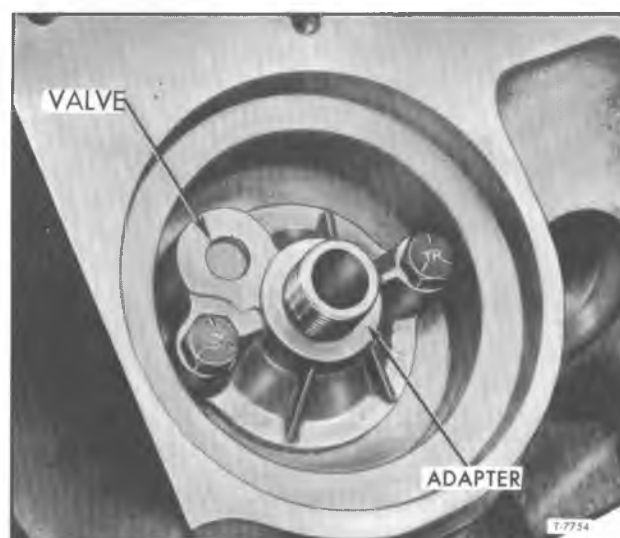

Figure 27—V8 Engine Oil Filter By-Pass Valve
1. Remove oil filter from engine, and clean cavity in which by-pass valve is located (fig. 27).